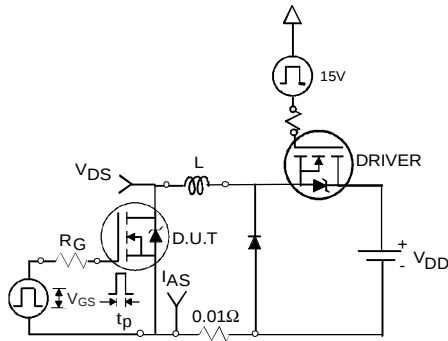

Fig 12a. Unclamped Inductive Test Circuit
- ③ $I_{SD} \leq 75A$, $di/dt \leq 220A/\mu s$, $V_{DD} \leq V_{(BR)DSS}$, $T_J \leq 175^\circ\text{C}$.
- ④ Pulse width $\leq 1.0\text{ms}$; duty cycle $\leq 2\%$.
- ⑤ $C_{oss \text{ eff.}}$ is a fixed capacitance that gives the same charging time as C_{oss} while V_{DS} is rising from 0 to 80% V_{DSS} .
- ⑥ Limited by T_{Jmax} , see Fig.12a, 12b, 15, 16 for typical repetitive avalanche performance.
- ⑦ This value determined from sample failure population. 100% tested to this value in production.
- ⑧ This is applied to D²Pak, when mounted on 1" square PCB (FR-4 or G-10 Material). For recommended footprint and soldering techniques refer to application note #AN-994.
- ⑨ Max $R_{DS(on)}$ for D²Pak and TO-262 (SMD) devices.
3. Equation below based on circuit and waveforms shown in Figures 12a, 12b.